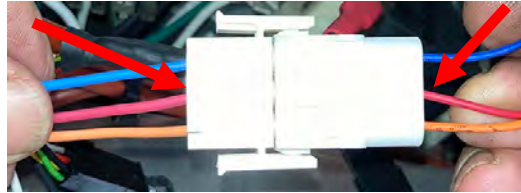

Figure 32
- n. Insert the red moxex wire from the harness from step e into the 3-pin connector directly across the existing red wire (see Figure 32). Gently pull on the connector to ensure it is locked into place.